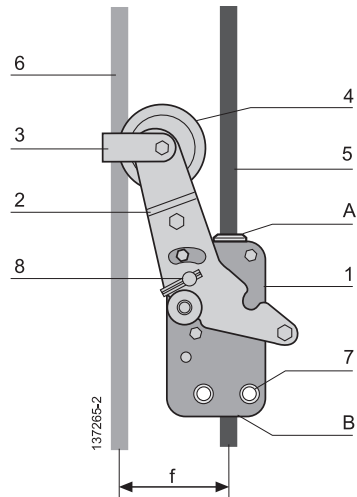

Fig. 1
The Blocstop™ type BSA fall arrest device (fig.1) is formed by a zinc-plated steel housing (item 1, fig. 1) and a zinc-plated steel lever (item 2, fig. 1) with a zinc-plated steel detection roller (item 4, fig. 1) mounted at its end. The fall arrest device is rigidly mounted on the suspended platform by 2 screws + self-locking nuts mounted beforehand in the holes (item 7, fig. 1). The lever (item 2, fig. 1) is rotated to open and close the jaws.
The fall arrest device operates automatically, and depends only on the distance f (see fig.1) between the lifting wire rope (item 6, fig. 1) used to lift the suspended platform and the safety wire rope (item 5, fig. 1) which runs through the unit (item 1, fig. 1).
- when the lifting wire rope (item 6, fig. 1) is tensioned, the lever (item 2, fig. 1) keeps the jaws opened and the safety wire rope (item 5, fig. 1) slides freely in the unit (fig.7).
- when the lifting wire rope (item 6, fig. 1) is slack, the lever (item 2, fig. 6), pushed by its return spring in the housing (item 1, fig. 6) swivels, causing the jaws to clamp on the safety wire rope (item 5, fig. 1). The suspended platform is immediately stopped on the side on which the fall arrest device is installed.
Actuation of the lever (item 2, fig. 1) can be caused by:
The zinc-plated steel wire rope guide (item 3, fig. 1) ensures that the lifting wire rope (item 6) is always in contact with the roller (item 4, fig. 1).
IMPORTANT: Each fall arrest device is factory-adjusted (position of lever (item 2, fig. 1) with respect to housing (item 1, fig. 1)) by means of a screw and a locknut. It is prohibited to change the adjustment of the lever with respect to the housing.